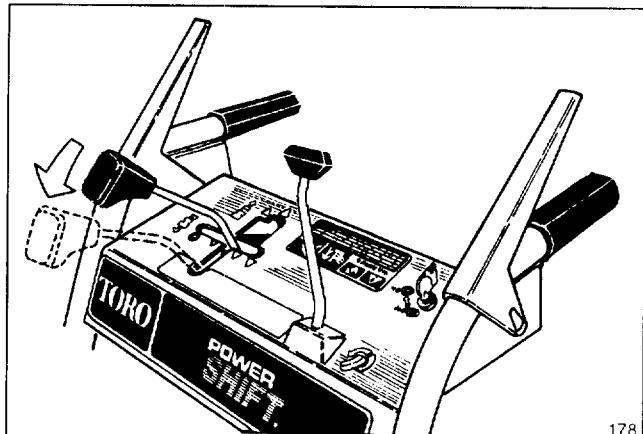

Figure 9
4. Install (2) flange bolts thru front slots in skids and thru sideplates. Install flat washers and lock-nuts on inside of sideplates. Do not tighten bolts.
5. Manually move wheels to the rear Power Shift position by lifting up on handles and moving the shift control fully forward to Power Shift position (Fig. 9).